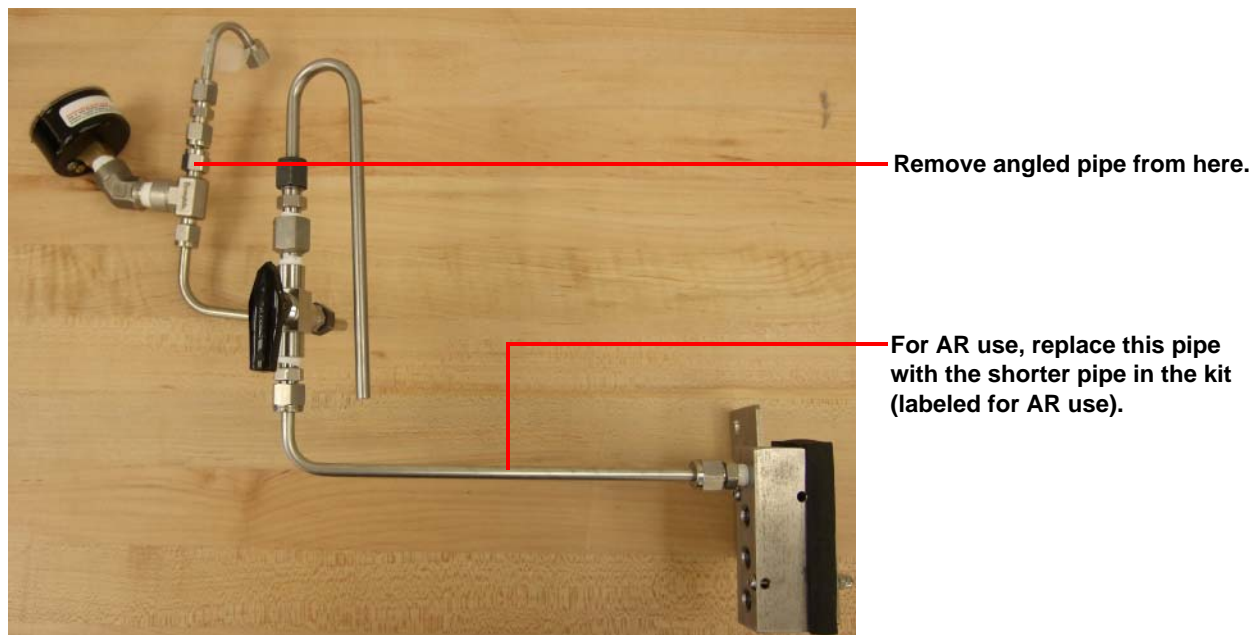

Figure 9 Manifold assembly.
Step 2: Unpack the preassembled piping manifold assembly. Using a wrench, remove the furthest extending angled pipe (shown in Figure 9 below) from the Tee fitting joining the gas inlet and pressure gauge.